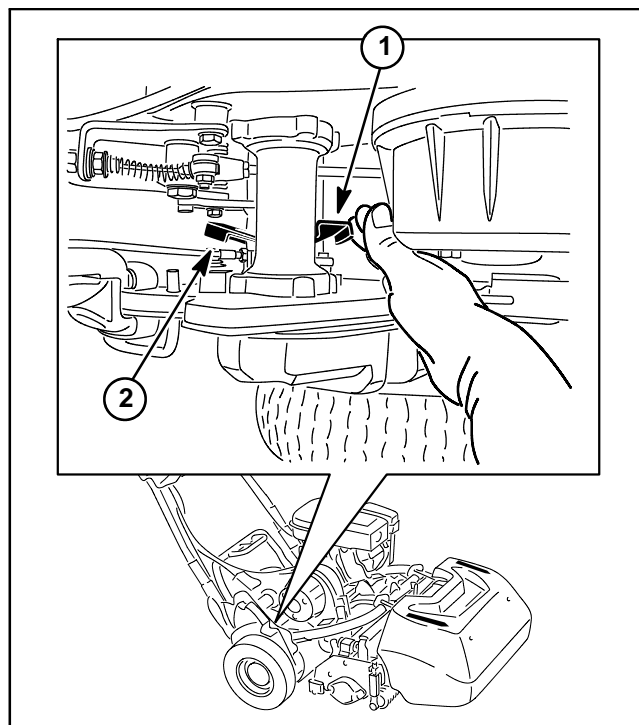
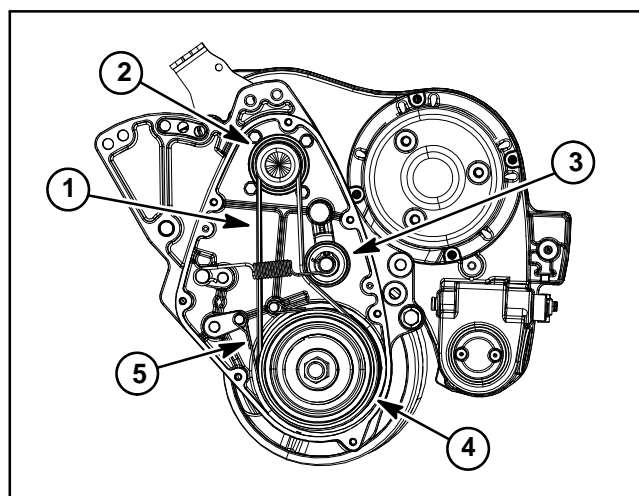

Figure 17
Figure 18
3. Rotate traction engage/disengage lever to the disengaged position to remove tension from the drum drive belt (Fig. 17) (see Disengaging Drum Drive From Transmission in the General Information section of this chapter).
4. Remove seven (7) washer head screws that secure the drum drive cover. Remove cover to expose the traction drive belt.
5. Remove and discard gasket (item 3) from between cover and housing.
6. Remove retaining ring (item 6) that secures brake band to brake clevis pin. Slide brake band from brake clevis and brake mount pins and remove band from drum drive housing.
7. Carefully remove one end of extension spring (item 9) from anchor point and rotate spring away from drive belt.
8. Pivot the idler pulley away from the drum drive belt to loosen belt tension (Fig. 18).
2. Place drum drive belt onto differential pulley and then fit belt to drive pulley. Make sure that belt is on rear side of idler pulley (Fig. 18).
3. Carefully install removed end of extension spring (item 9) to anchor point.
4. Install brake band over brake surface of differential pulley. Slide ends of brake band onto brake clevis and brake mount pins. Secure brake band to brake clevis pin with retaining ring (item 6).
5. Make sure that wave washer (item 4) is pressed into bore of drum drive cover.
6. Position new gasket (item 3) to housing surface.
8. Install seven (7) washer head screws to secure cover to housing. Tighten screws as follows:
9. Rotate traction engage/disengage lever to the engaged position to tension the drum drive belt (Fig. 17).